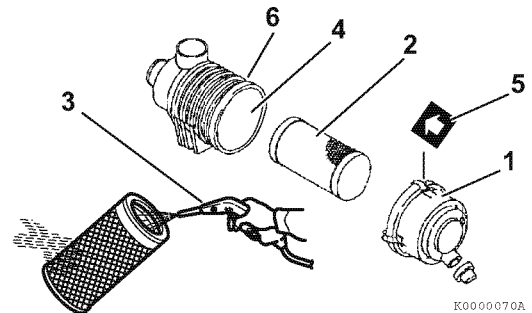
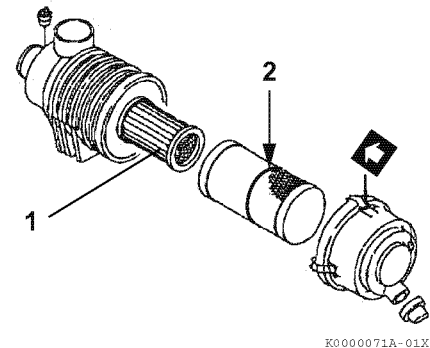

Figure 5-12
Figure 5-13
Note that a typical air cleaner is shown in **Figure 5-12** and **Figure 5-13** for illustrative purposes only.
1. Unlatch and remove the air cleaner cover (**Figure 5-12, (1)**).
2. Remove the element (**Figure 5-12, (2)**) (outer element if equipped with two elements).
3. Blow air (**Figure 5-12, (3)**) through the element from the inside out using 42 - 71 psi (0.29 - 0.49 MPa; 3.0 - 5.0 kgf/cm2) compressed air to remove the particulates. Use the lowest possible air pressure to remove the dust without damaging the element.
If the air cleaner is equipped with a double element, only remove and replace the inner element (**Figure 5-13, (1)**) if the engine lacks power or the dust indicator actuates (if equipped).
6. Install the element into the air cleaner case (**Figure 5-12, (4)**).
*Note: If there is a red line (**Figure 5-13, (2)**) in the outer element, reinsert the element until the overlap position of red line and end face of the air cleaner case.*
7. Install the air cleaner cover making sure you match the arrow (**Figure 5-12, (5)**) on the cover with the arrow on the case (**Figure 5-12, (6)**).
Replace the air cleaner element (**Figure 5-12, (2)**) every 500 hours even if it is not damaged or dirty.
When replacing the element, clean the inside of the air cleaner case (**Figure 5-12, (4)**).
If the air cleaner is equipped with a double element, only remove and replace the inner element (**Figure 5-13, (1)**) if the engine lacks power or the dust indicator actuates (if equipped). This is in addition to replacing the outer element.